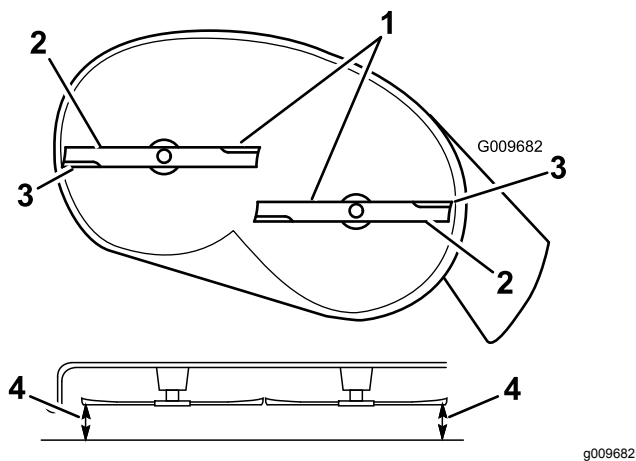
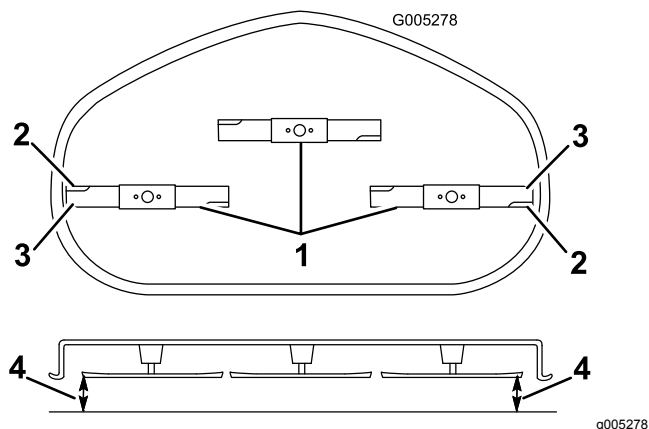

Figure 66
Figure 67
- Carefully rotate the blades so that they are all side to side (Figure 66 and Figure 67).
5. Measure between the outside cutting edges and the flat surface (Figure 66 and Figure 67).